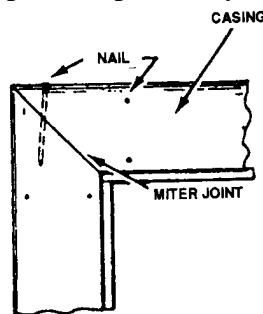

Figure 3, Casing
- Each pair of nails should be spaced about 16 in. O.C. Figure 3.